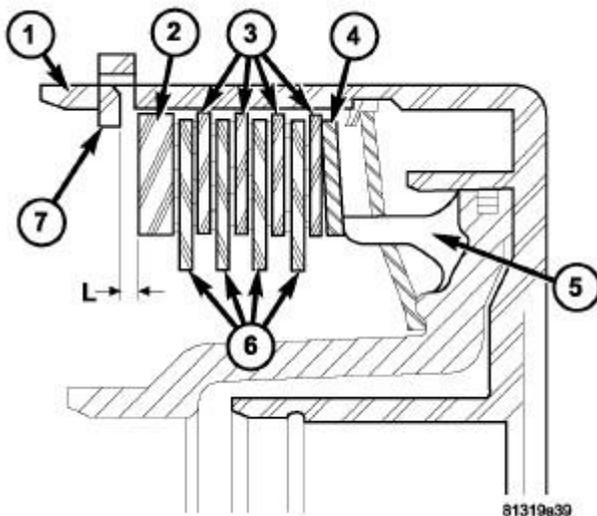

Fig. 153: Input Clutch K3 Stack-Up - Single Sided Discs
13. For transmissions using single sided friction discs, use a feeler gauge to determine the play "L" at three points between the snap-ring (7) and outer multiple-disc (2). Refer to **Fig. 153**.
14. During the measurement the snap-ring (7) must contact the upper bearing surface of the groove in the outer multiple-disc carrier.
16. Adjust with snap-ring (7), if necessary. Snap-rings are available in thicknesses of 2.0 mm (0.079 in.), 2.3 mm (0.091 in.), 2.6 mm (0.102 in.), 2.9 mm (0.114 in.), 3.2 mm (0.126 in.), and 3.5 mm (0.138 in.).